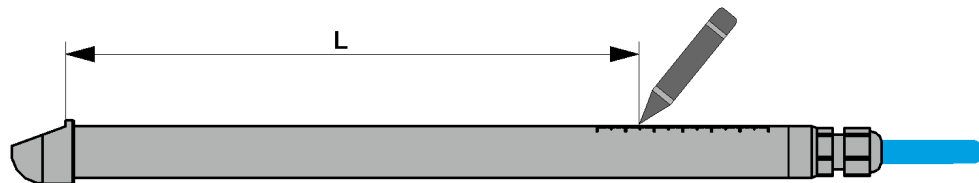

Fig. 10-50 Marking the insertion depth L on the pipe sensor
4. Mark insertion depth L on the pipe sensor (Fig. 10-50) for adjustment after installation.